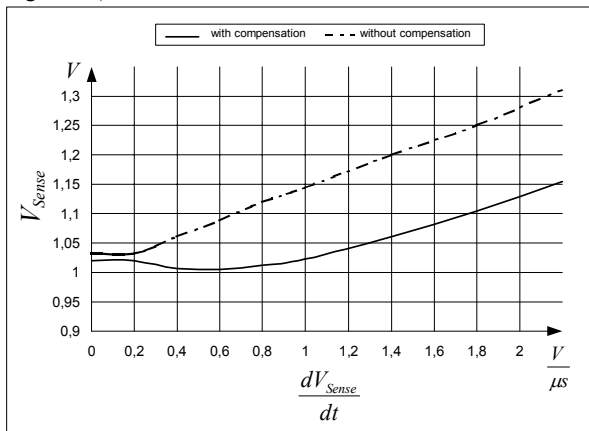

Figure 12 Overcurrent Shutdown
E.g. $I_{peak} = 0.5A$ with $R_{Sense} = 2$. Without Propagation Delay Compensation the current sense threshold is set to a static voltage level $V_{csth} = 1V$. A current ramp of $di/dt = 0.4A/\mu s$, that means $dV_{Sense}/dt = 0.8V/\mu s$, and a propagation delay time of i.e. $t_{Propagation Delay} = 180ns$ leads then to an I_{peak} overshoot of 14.4%. By means of propagation delay compensation the overshoot is only about 2% (see Figure 12).